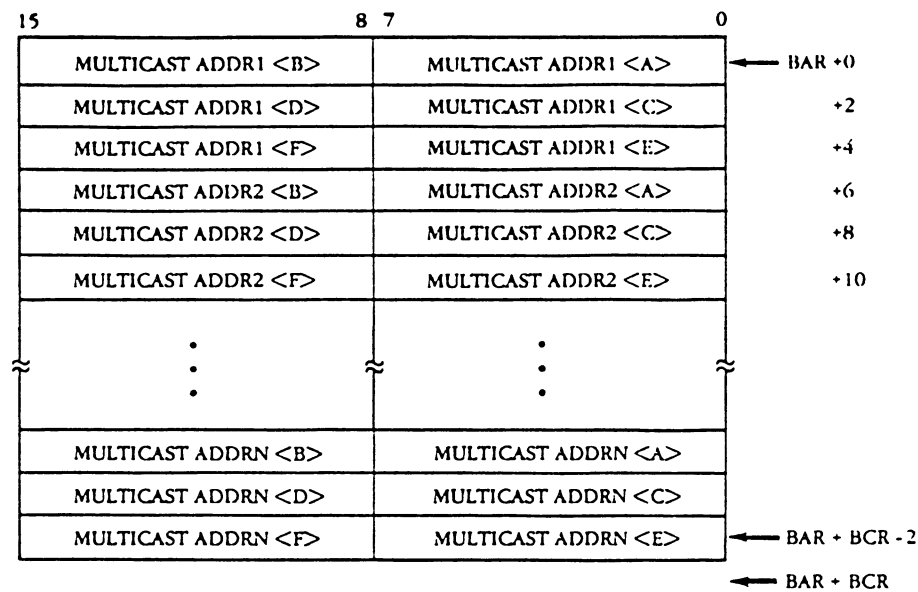

Figure 3-13. Multicast-Group Address Format
See Figure 3-13 on the next page.
See Figure 3-13 under the Load Group Address(es) command (52).